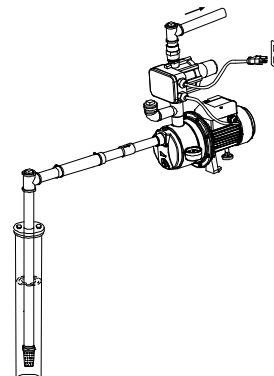

Figure 3
3. Connect the pump outlet to the water system in your house (Figure 3).